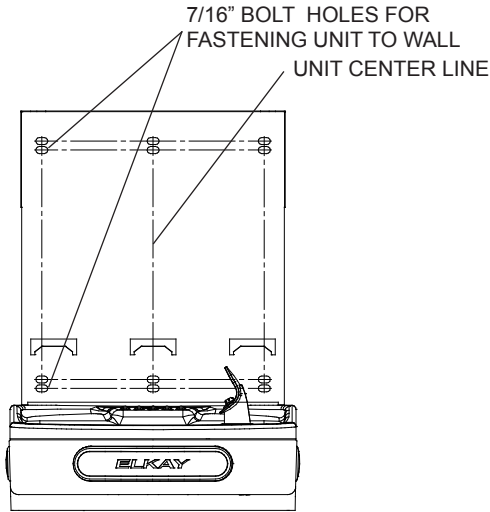

Fig. 8
- 4) Install wall mounting plate to wall using six (6) 7/16" or round mounting holes (mounting bolts not included) (See Fig. 8). Use appropriate fasteners for your wall type.